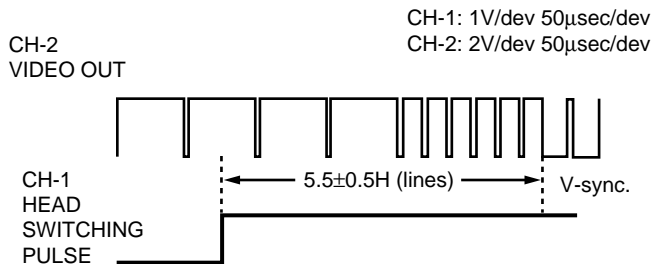

Figure 5-2.
4. Adjust R701 so that the leading edge of the head switching pulse is 5.5H (lines) ahead of the vertical sync as shown in Figure 5-2.